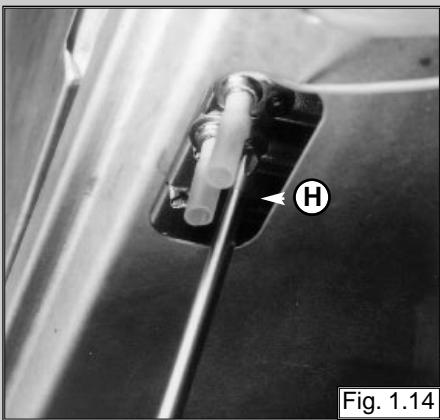

Fig. 1.14
5. Remove screw "H" using a Philips No. 2 star tip screwdriver (see fig. 1.14);